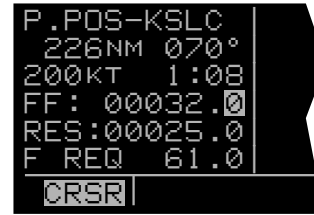

Figure 5-9
8. Use the left inner and outer knobs as before to enter the aircraft's rate of fuel flow. The unit (gallons, pounds, etc.) is not important as long as you are consistent (figure 5-9).